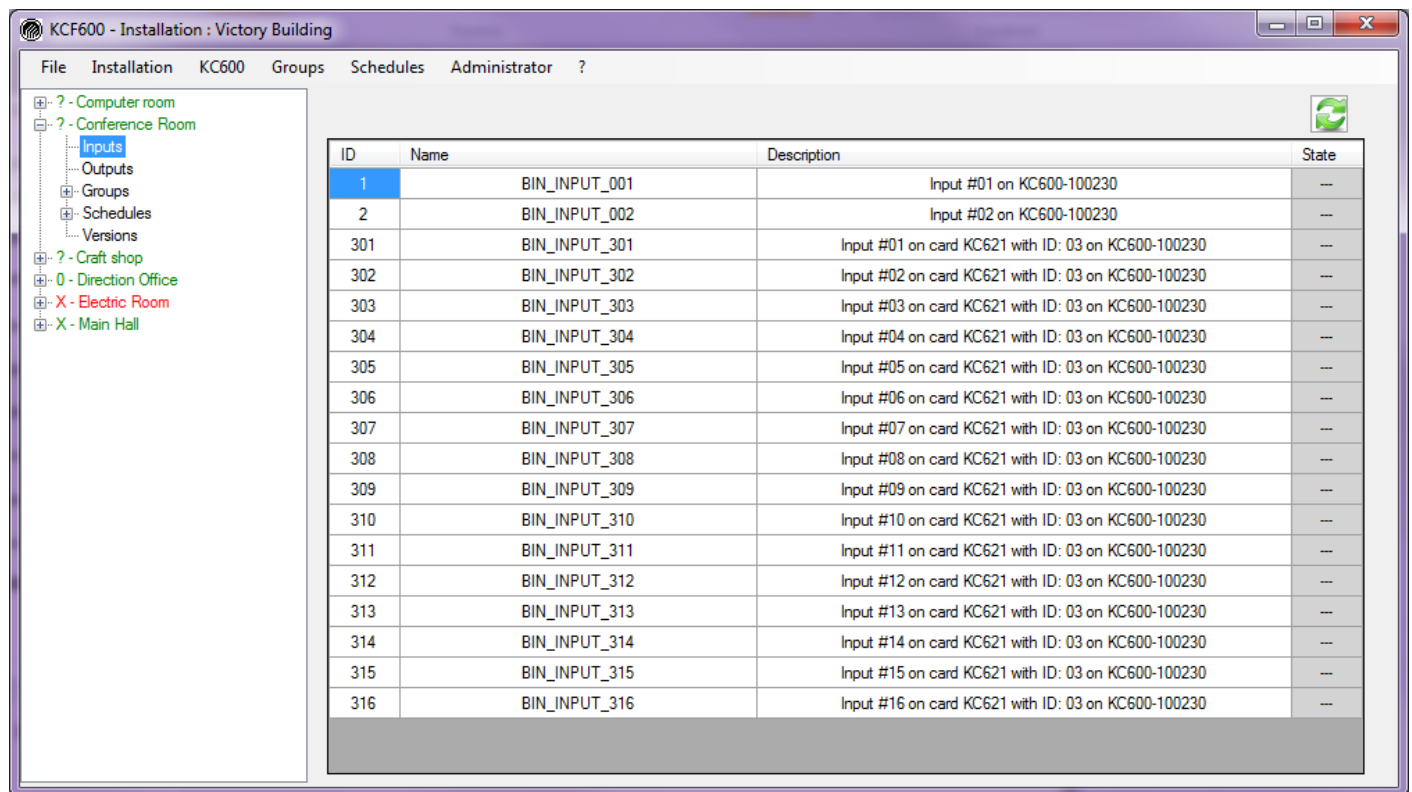

Figure 24: Window showing the main parameters for the inputs in a KC600.
**Example:** On Figure 24, we see binary inputs with numbers between 201 and 216, which means these inputs are on a KC621 card with a Modbus address set to: “2”.